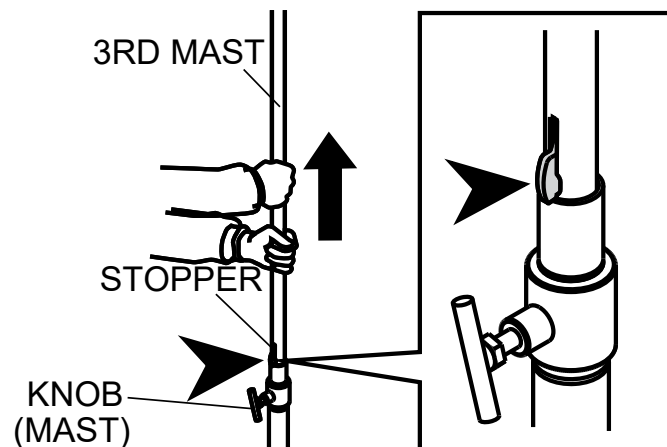

Figure 12. Raising Third Mast
1. Tighten the mast knob (Figure 12).
2. Raise third mast until the stopper locks it in place (Figure 12).